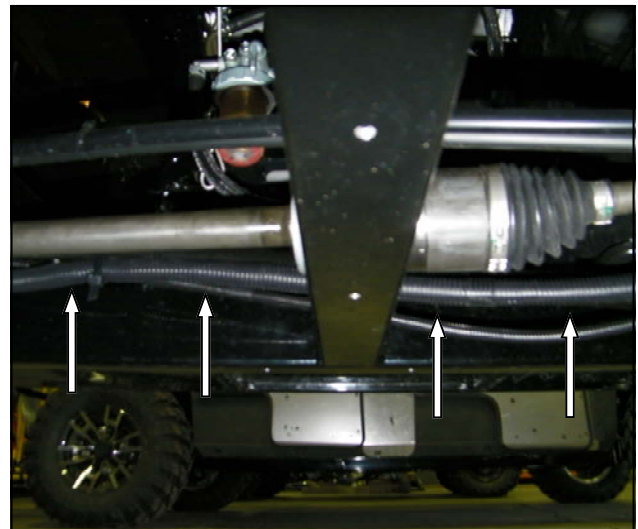

Fig. 5
5. Route the 10 Ga. Black and Red ring terminal wires, the 16 Ga. Brown ring terminal and 16 Ga. Black male bullet connector under the vehicle along the frame following the manufacturer wire harnesses to the battery compartment as shown in figure 5.